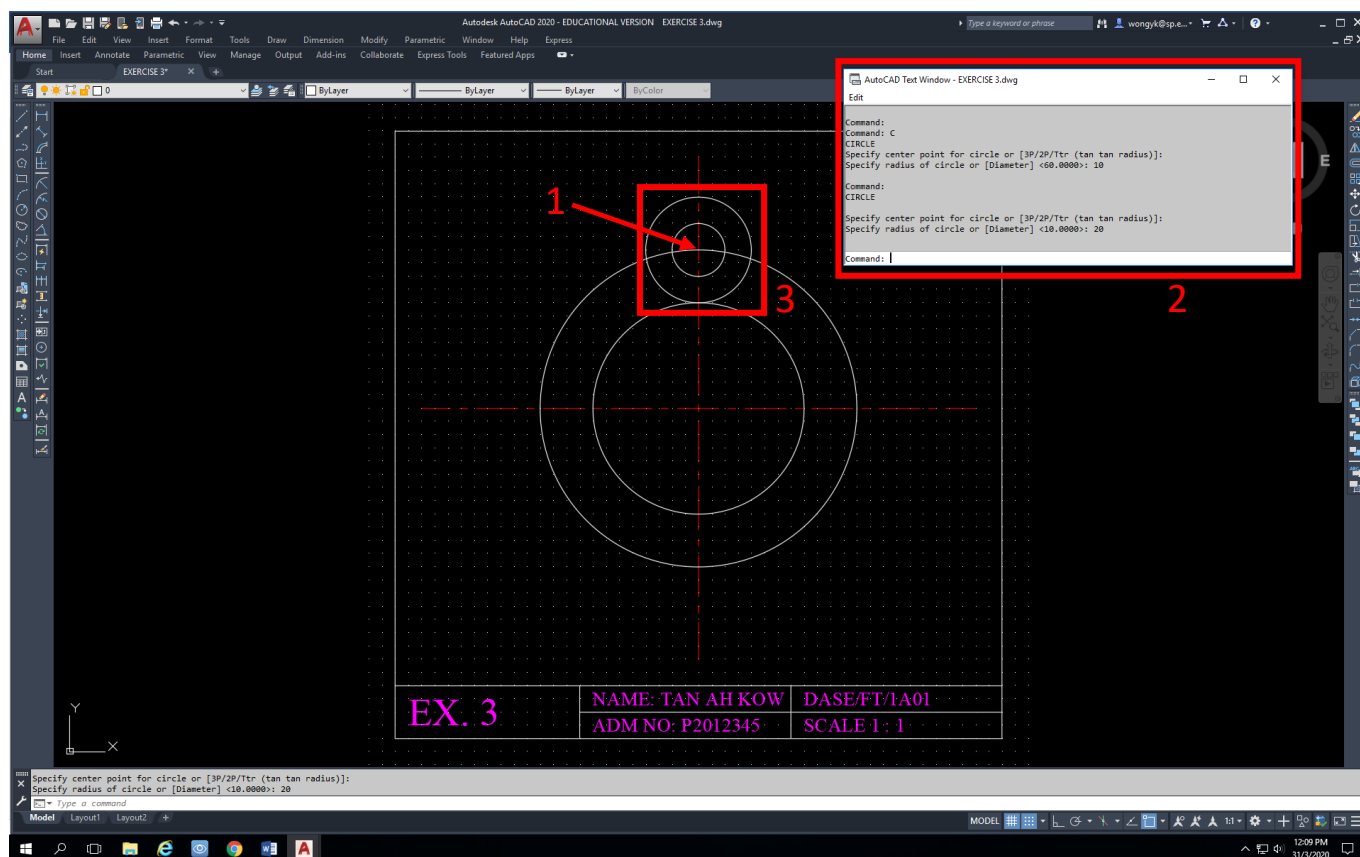

Fig 22
- x. Fig 22 shows the guide steps (2) and the positioning of the inner & outer ring bolts (3)